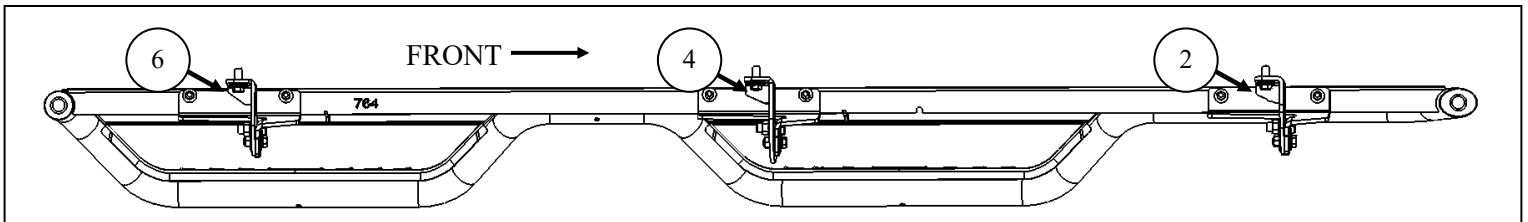

Figure 8
6. Repeat **Steps 2 - 5** for the passenger side mounting locations. **Note:** *See Figures 8 & 9 for the correct bracket orientation.*